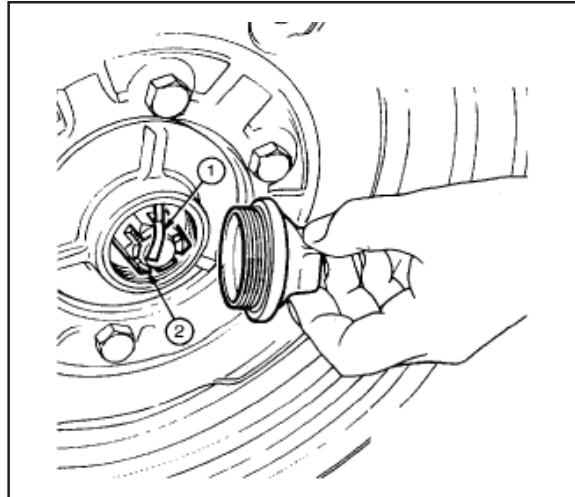

Fig.110
2. Remove the split pin (1, Fig. 110) and tighten the castellated nut (2) to a torque of 80 Nm (60 lbf ft), then slacken off the nut to the nearest pin hole to give the correct end play. Fit a new split pin.